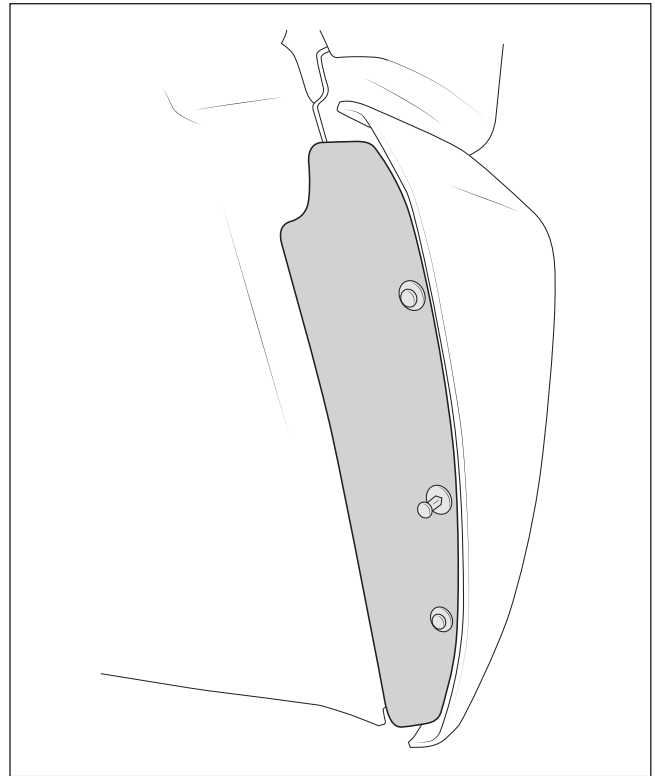

Figure 27
4. Install fender liner retainer plates using provided push pins (fig. 27).